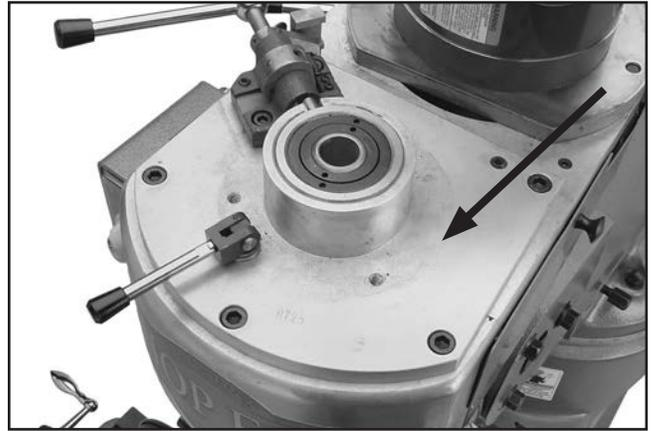

Figure 74. Transmission case cover plate.
3. Remove the cap screws and taper pin from the transmission case cover plate (see **Figure 74**).